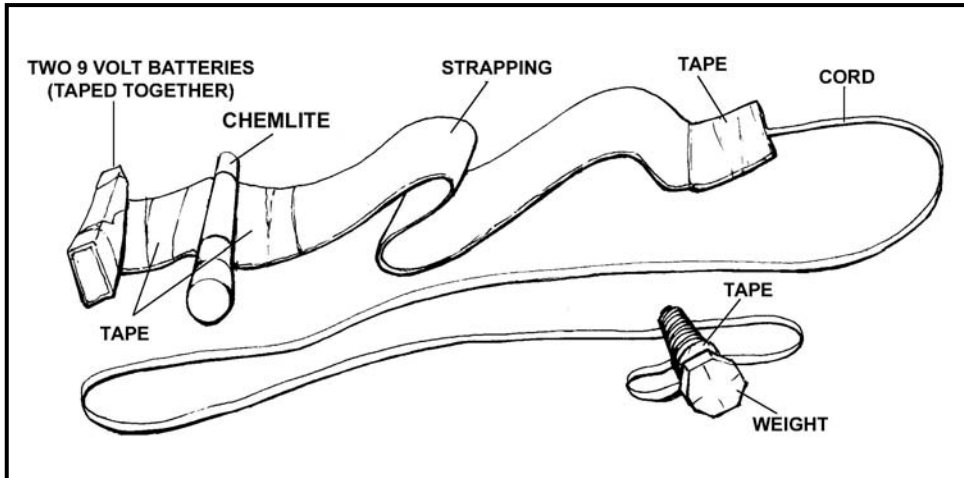

Figure I-1. Example of a wolf tail marking device.
c. **Wolf Tail.** A simple, effective, easy-to-make, lightweight device called a “wolf tail” can be fabricated to mark buildings, doorways, and windows (Figure I-1, page I-4). A unit has changed its tactical TSOP to require that each Infantryman carry one of these devices in his BDU cargo pocket. Wolf tails, when used IAW a simple signaling plan understood by all members of the unit, can aid in command and control, reduce the chances of fratricide, and speed up casualty collection during urban combat.
(1) The wolf tail marking device is simple to make and versatile. It can be used together with the NATO marking scheme. Rolled up, it makes a small, easily accessible package that can be carried in the cargo pocket of the BDUs. It can be recovered easily and used again if the situation changes. All its components can be easily obtained through unit supply. It combines a variety of visual signals (colored strapping and one or more chemlites of varying colors) with a distinctive heat signature that is easily identified through a thermal weapon sight. An infrared chemlite can be used either as a substitute for the colored chemlite(s) or in addition to them.
(2) Constructing the wolf tail marking device requires the following material:
(3) Assemble the items by tying or taping the cord to the small weight. Attach the other end of the cord to the nylon strapping, securing it with duct tape. Attach the 9-volt batteries in pairs to the lower end of the strapping with several wraps of duct tape, making sure that the negative terminals are opposite the positive, but not actually touching. Use more duct tape to attach the chemlites, approximately 2 inches above the batteries, to the strapping.
(4) When you want to mark your position, push the batteries together firmly until the male and female plugs lock. This shorts out the battery, causing it to heat up rapidly. The hot battery is easily identified through the thermal sights of tanks or BFVs. The batteries will remain visible for about 45 minutes. Activating the chemlites provides an easily identified light source visible to the naked eye. You can use infrared chemlites if you want them to be seen through night vision devices but not with the naked eye.